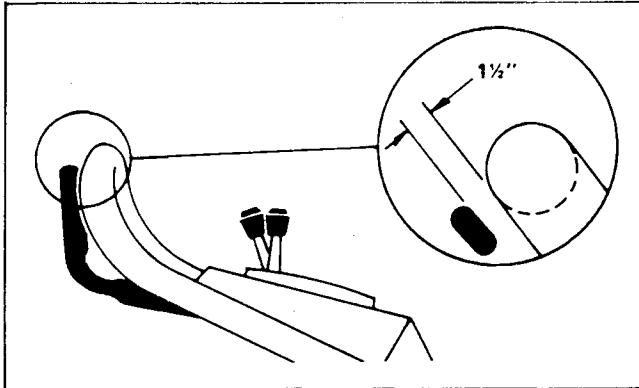

Figure 31
3. Lift the control bar until some resistance is felt. Control bar should be 38 mm (1-1/2") from handle when properly adjusted. See Figure 31.